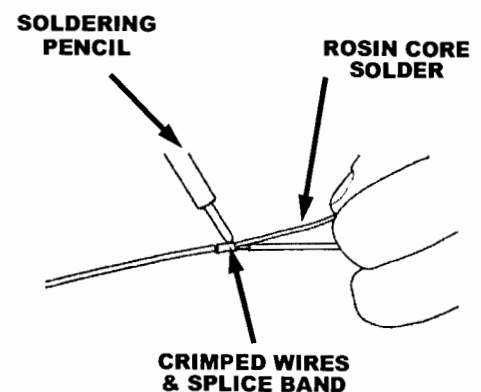

Figure 9
11. Solder the connection together using only rosin-core type solder (Figure 9).